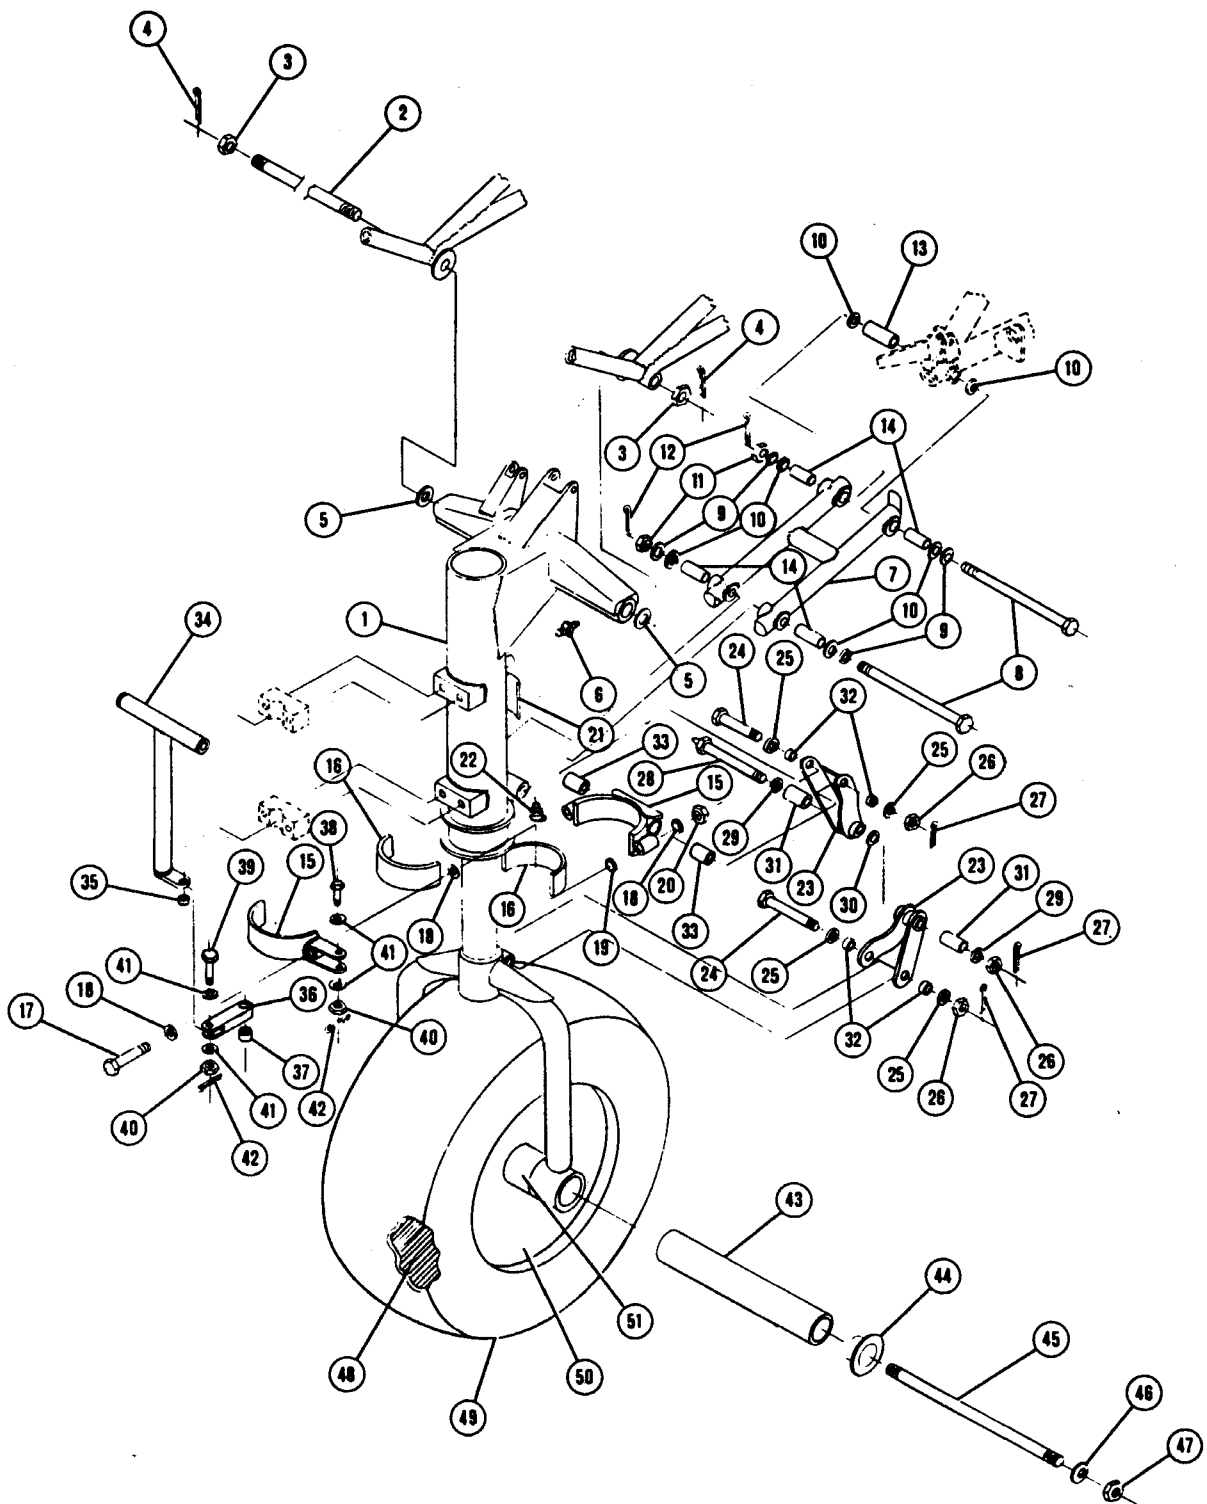

Figure 7-10. Nose Gear Installation, Aircraft Serial Numbers 76-30797 through Serial Numbers 78-30905.
e. On Aircraft Serial Numbers 76-30797 through Aircraft Serial Numbers 78-30905 disconnect the steering rods from the torque tube (34, Figure 7-10).
Legend for Figure 7-10